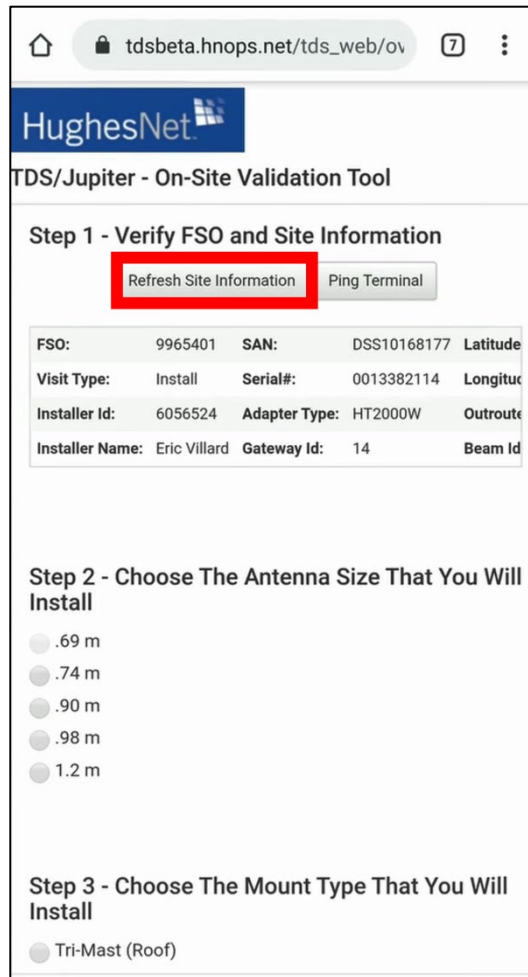

Figure 74: OVT step 1
- Step 1 asks you to verify the FSO and site information. Tap **Refresh Site Information** (outlined in Figure 74) to ensure the most up-to-date information is populated.